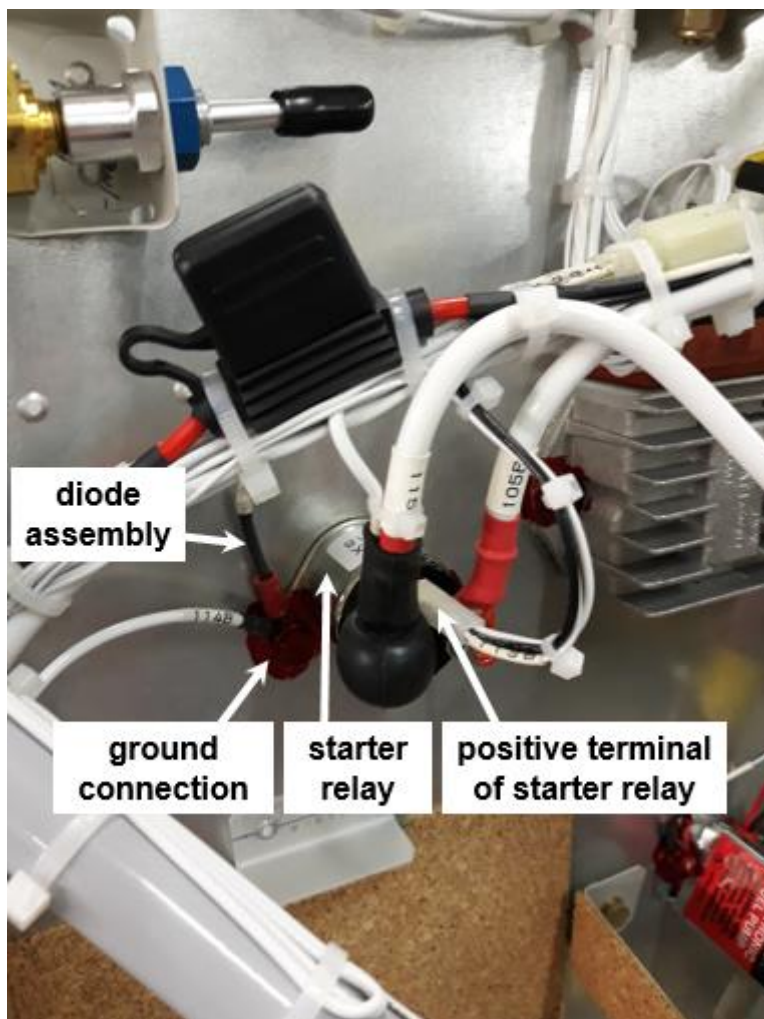

Figure 5. Diode assembly installed on PS-28 Cruiser airplane
Diode assembly installation (refer to Figure 5):
- d) Place the ground connection ring terminal of the diode assembly on the mounting bolt and reinstall the bolt through the starter relay base. The bolt is now the "ground" connection for the diode assembly, see Figure 5.